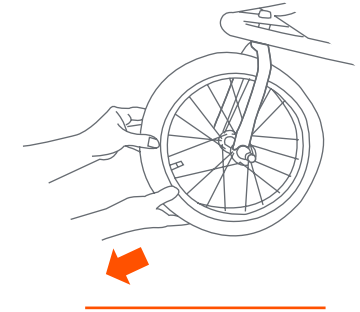

Fig. 20
- 20) • Lift the front of the stroller off the ground, and pull down on the wheel to make sure it is secure (Fig. 20).